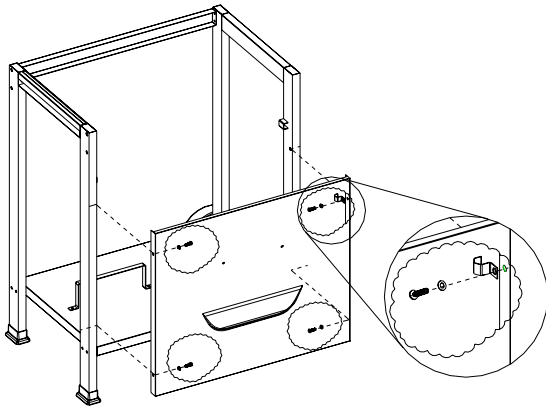

Figure 5
1. Assemble front panel to front cart leg by using (4)  $\frac{1}{4}$  x  $\frac{3}{5}$ " screws with (4)  $\frac{1}{4}$ " lock washers. (Fig.5)